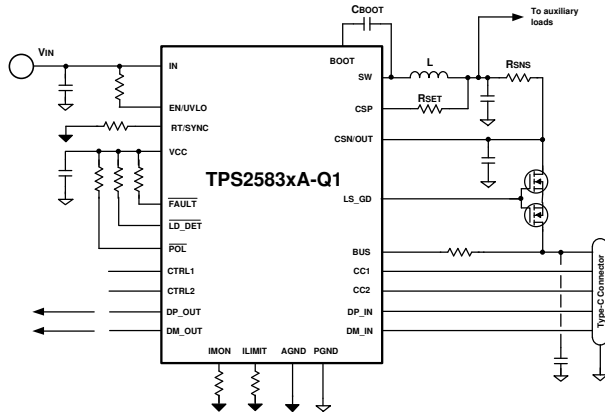

Figure 10-16. TPS2583x-A-Q1 Current Limit With External MOSFET
- With external MOSFET Figure 10-16:
3. Typical R_{ILIMIT} resistors value are listed in Figure 10-16, given the condition R_{SNS}= 15 mΩ and R_{SET} = 300 Ω.
The TPS2583xA-Q1 has integrated NFET gate drivers and can support current limit with external NFET. Refer to Figure 10-16.